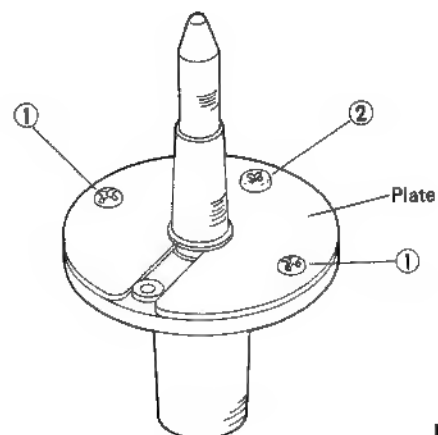

Fig. 10
### 5-(8) Replacement of spindle shaft (Fig. 10)
1. Remove securing screws ①, then take it out.